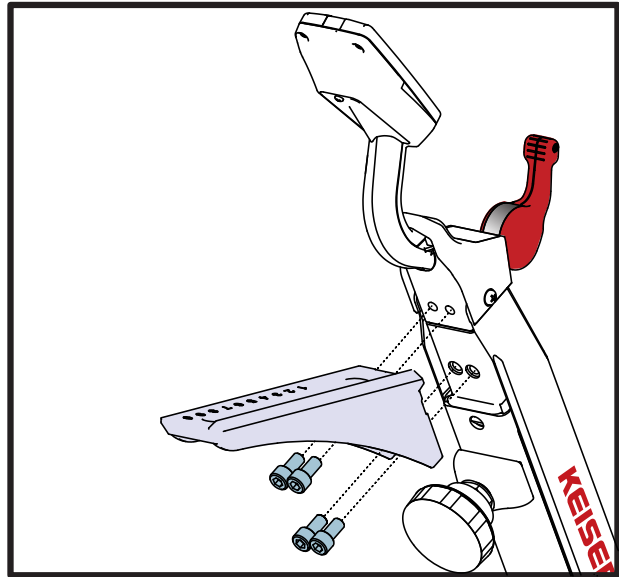

Figure 16. Attach the Bottom Slide to the Handlebar Tube
5. Attach the handlebar slide to the handlebar tube with the four screws previously removed. Use a 6mm Allen wrench to tighten screws. There should be no gap between the handlebar slide and the handlebar tube, refer to Figure 16.